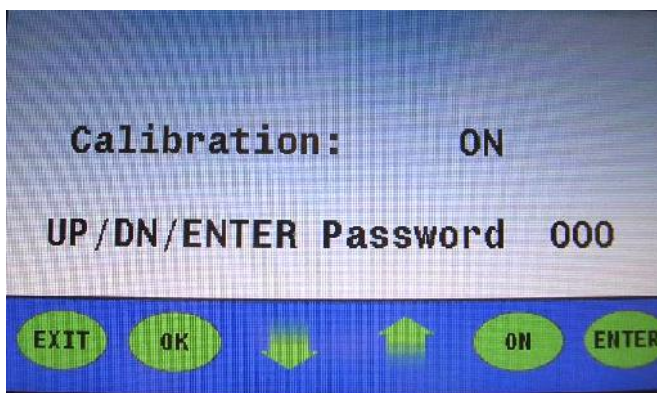

Figure 13
8. Press the up or down arrow once and three “0”s / (000) will show up to the right of the word “Password”. The first digit will be blinking. (**Figure 13**)